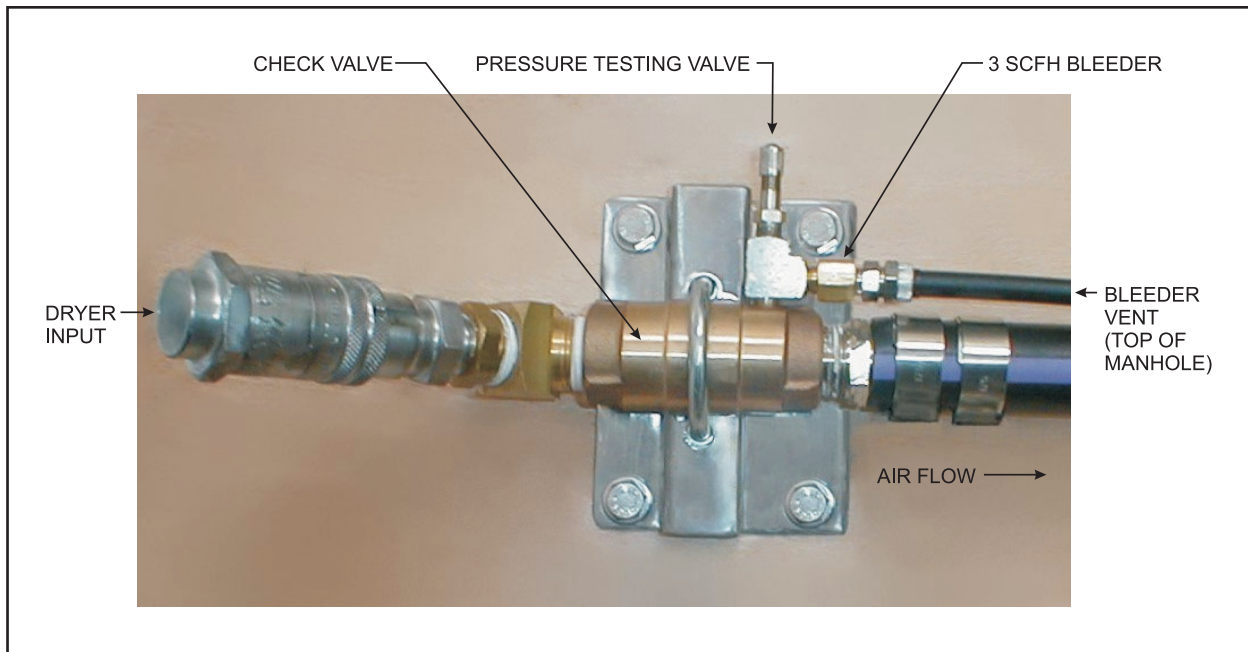

Figure 2—Emergency Air Feeder Assembly
- This unit is a self-contained air dryer (not an air compressor) that does not require electrical pairs. It is used to extract moisture from the telco-supplied compressor, such as an Ingersoll-Rand, that is set up during an emergency at the manhole where the Emergency Air Feeder Assembly (Figure 2) is installed.
- This unit (shown in Figure 2) is installed in the manhole selected for the placement of the air compressor and emergency air dryer.